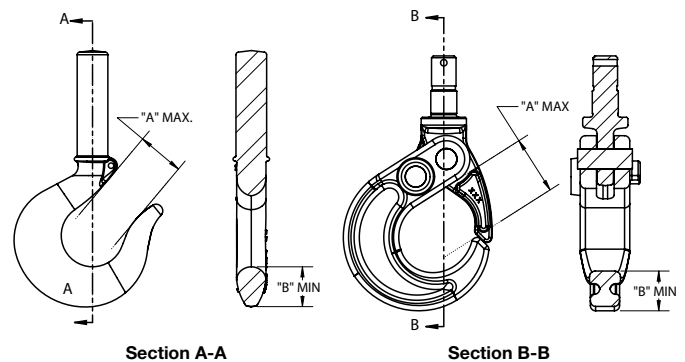

Figure 16. Hook Inspection
3. Slack the portion of the chain that normally passes over the lift-wheel (sprocket) or idler sprocket on multi-reeved hoist. Examine the chain links for wear (see figure 16). If the wire diameter anywhere on the link measures less than 90% of the nominal wire diameter, the chain must be replaced.